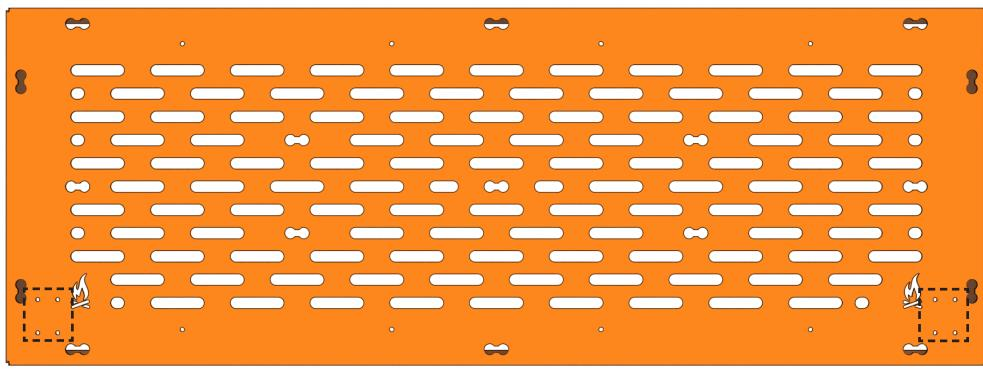

FIG 5
**2.1 Attach Legs to Bed:** Attach both **Legs to Solo Bed** using **(4ea) 1/4-20 x 0.5 Flanged Button Head Screws** in the predrilled locations shown in **FIG 5+6**.
**NOTE -** The Legs are directional. Make sure that the push button is pointed toward the center of the bed during install **(FIG 5)**.